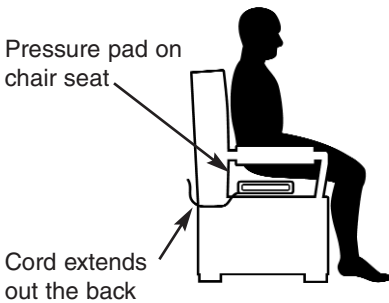

Figure 14
1. Place the pressure pad in the center of the chair seat. The side of the pressure pad with the cord on it should be at the back of the chair seat (Figure 14). Do not place the cord on top of or underneath the pressure pad.